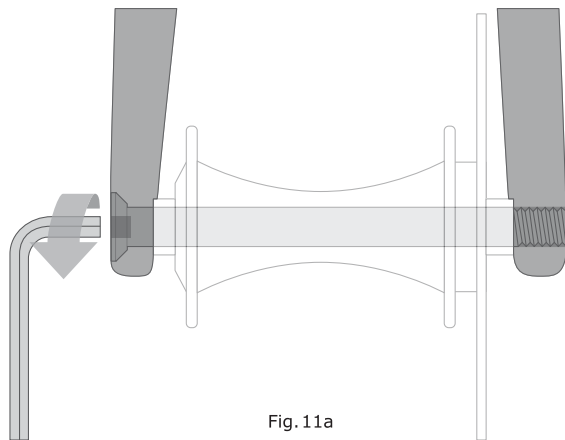
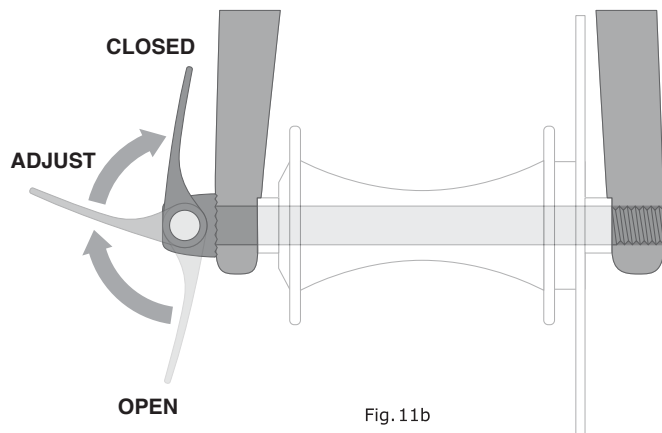

Fig. 11a
Fig. 11b
The thru axle is inserted through the unthreaded hole in the frame or fork's dropout, through the wheel hub, and is threaded directly into the opposing dropout by tightening the thru axle. Common installation methods may use an Allen hex key (Fig. 11a) or a cam lever (Fig. 11b). Please refer to the manufacturer's instructions for specific information about your thru axle's operation, including correct torque specifications or lever adjustment information.
(4) If your bike has a thru-axle front wheel mounting system (Fig. 11a & 11b), loosen and remove the thru axle according to the manufacturer's instructions, then remove the wheel.
(5) If your bike has a thru-axle rear wheel mounting system (Fig. 11a & 11b), loosen and remove the thru axle according to the manufacturer's instructions.
(6) Push the rear wheel forward far enough to be able to remove the chain from the rear sprocket, then lift the rear wheel off the ground a few inches and remove it from the rear dropouts.
(b) With a through-bolt or bolt-on system (Fig. 11a), tighten the fasteners to the torque specifications in the hub manufacturer's instructions.
(Fig. 11b), make sure that the threads of the through-bolt are engaged and evenly threaded within the receiving dropout hole or nut before moving the cam lever upward and into the CLOSED position. To apply enough clamping force, you should have to wrap your fingers around the seatstay or chainstay for leverage, and the lever should leave a clear imprint on the palm of your hand.